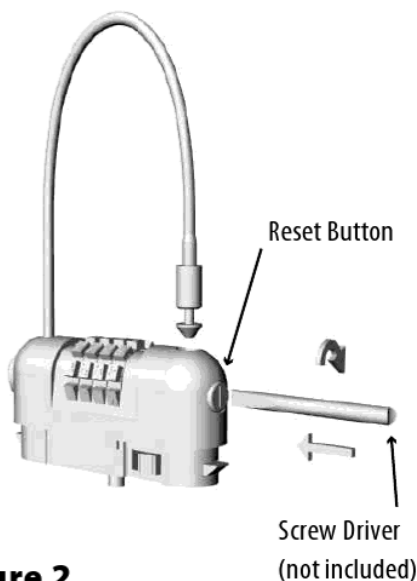

Figure 2
*With the lock detached from the housing and the Cable Bullet End detached, use a flat-head screwdriver (not included) to press in the Reset Button and turn 90 degrees clockwise. (See Figure 2) Turn Dials to your desired combination, turn Reset Button counter-clockwise 90 degrees so it pops back to its original position.